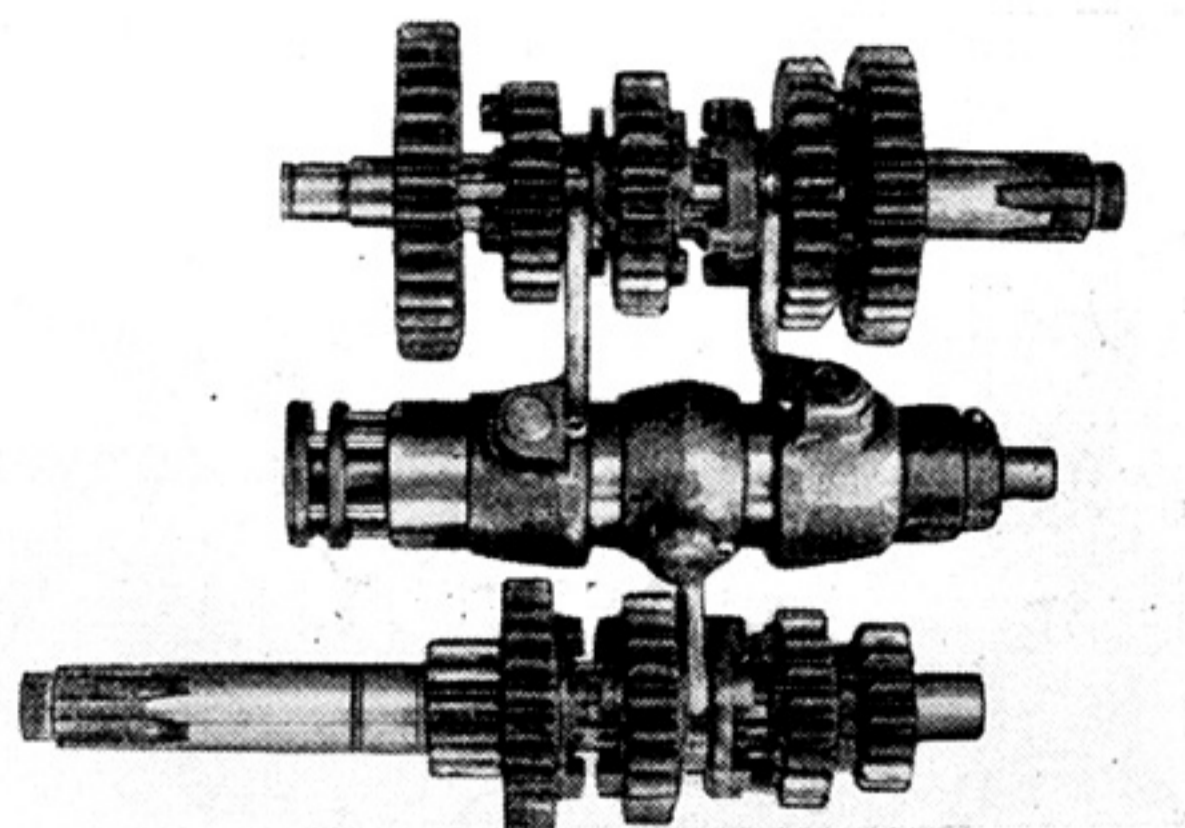

Fig. 3-15-8
a. Reinstalling the Gear Ass'y and Shifter Drum Integrate both gear ass'y and shifter drum into one assembly, and mount it in the crankcase (L). Remember that the gear ass'y and shifter drum can not be installed separately. (Fig. 3-15-8)